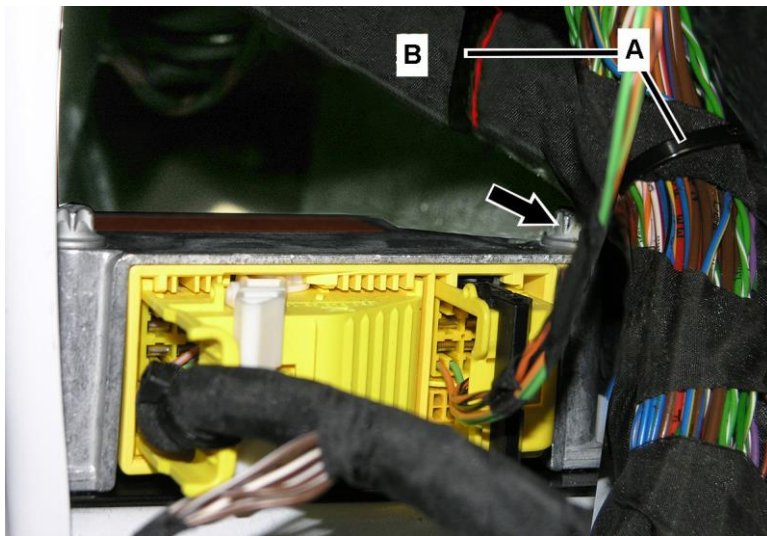

Figure 2
- In order to gain access to covered SRS control module mounting bolt (arrow, Figure 2) cut cable ties (A) and remove from them their mounting clips, then lift up interior harness (B).
- Be sure to reposition interior harness (B) back to its' **original position** and **secure to existing cable tie mounting clips with new cable ties**.